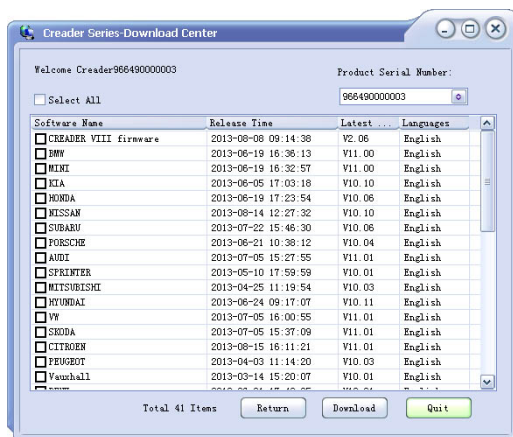
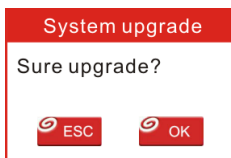

Figure 7
Figure 8
- Reopen the Creader VII+ / Creader VIII update tool, select the updates you would like to perform or click "Select All" and click **Download** to start downloading. See Figure 7.
11. Once all steps are complete, reinsert the TF card into the tool and power the tool via USB cable or via OBD II cable (one end to OBD II connector of Creader VII+ / Creader VIII and the other end on the vehicle's DLC). A dialog box (Note: If only diagnostic softwares are updated and no firmware packages are downloaded in Figure 7, this box will not appear) prompting you to upgrade will pop up on the screen (See Figure 8), select **OK** to proceed.